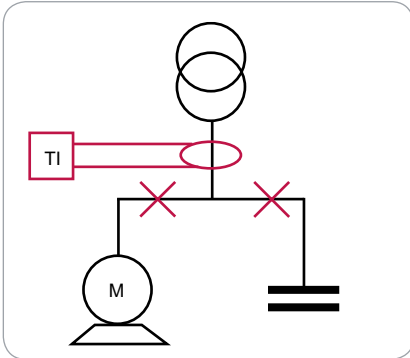

Fig. 11 Diagram of connection to a single LV busbar and CT location.
As mentioned previously, it will be necessary to ensure a complementary installation of the current transformer so that it can read the total consumption of the installation. It is indispensable to set up the current transformer (CT) in accordance with **Fig. 11**, and installing the system at any of the points indicated by a cross would result in the system malfunctioning.